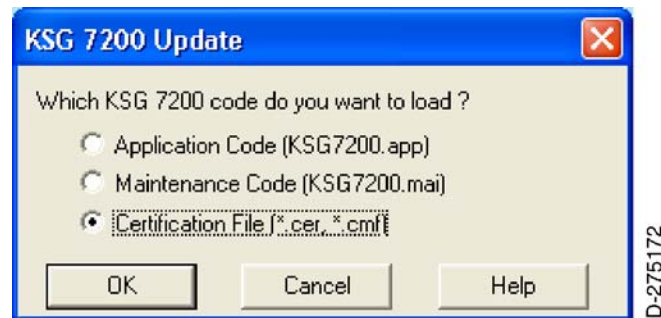

Figure 27. (Sheet 1 of 1) KSG 7200 Update Window (Certification File)
- (9) Click on the KSG 7200 Dual Channel ADAHRS button and the following KSG 7200 Update window will appear. Click the radio button to the left of the Certification File [*.*cer, *.*cmf] update selection. Refer to Figure 27.